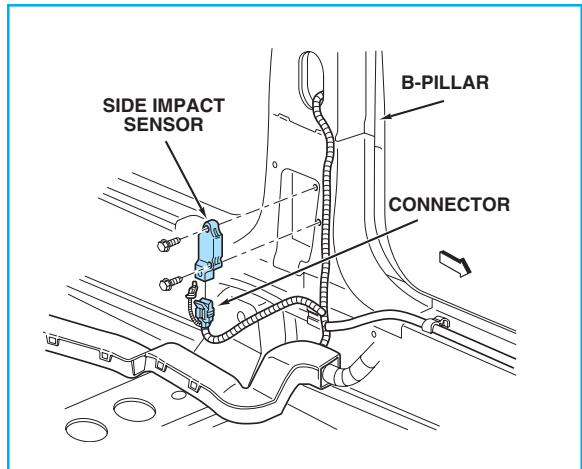

Figure 4
**A** Like the frontal air bag, the side impact air bag is designed to work with the safety belts to provide protection in a moderate to severe side impact. In a side impact of sufficient severity, a sensor in the door or B-pillar detects the sudden lateral acceleration of that structure (see Figure 4). That sensor triggers its respective inflator module, causing the propellant sealed inside to inflate a cloth bag packed behind the door trim or in the seat cushion. As the bag inflates in less than 1/40 of a second, it splits open its cover and inflates beside the occupant. Some newer models may have front and rear seat side impact air bags.
All information pertaining to the safe handling of deployed modules and precautions for sodium azide apply to the side impact air bag modules also. More recent models use seat mounted (see figure 4) side impact air bags and may not use sodium azide as a propellant.